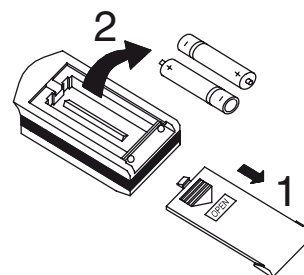

Fig. 1
1. Lightly press the place marked , in the direction of the arrow to remove the back cover of wireless remote control unit. (Fig. 1)
2. Remove the old batteries. (Fig. 1)